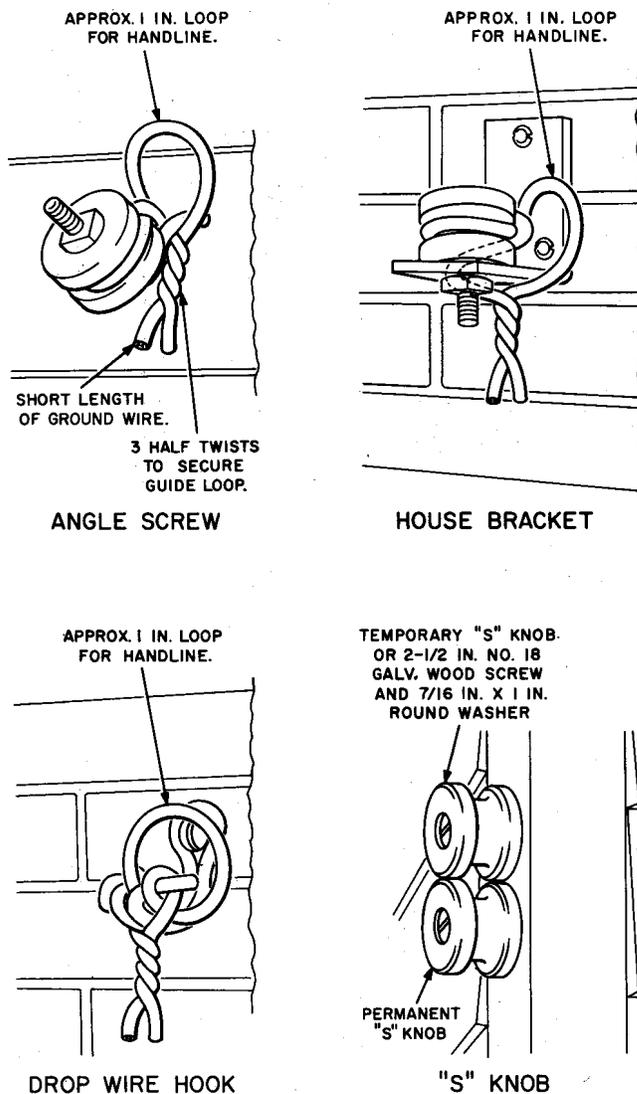

Fig. 2—Temporary Guide Loop
- At building attachment—use a short piece of ground wire to form a guide loop as shown in Fig. 2.